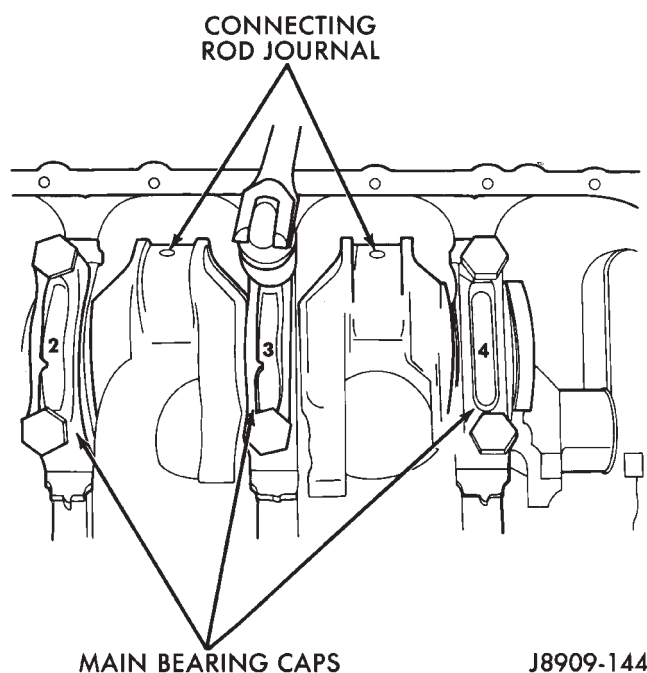
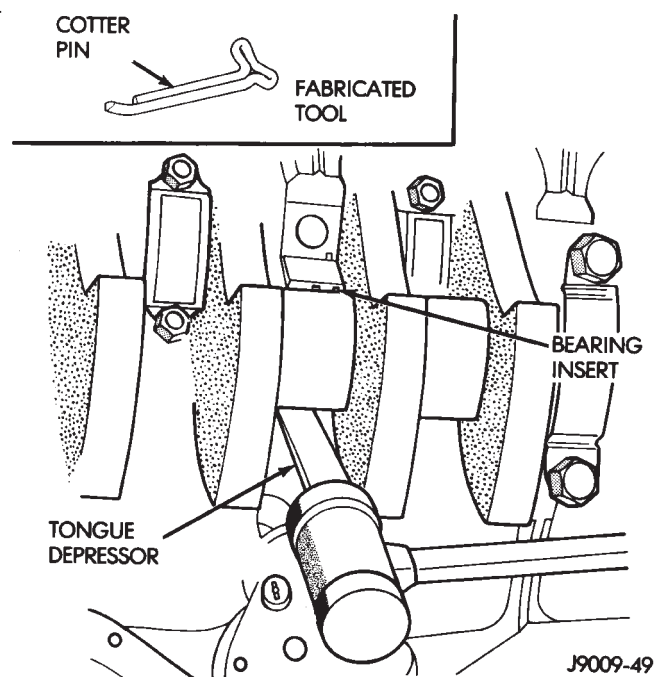

Fig. 1 Removing Main Bearing Caps and Lower Inserts
Fig. 2 Removing Upper Inserts
(1) Disconnect negative cable from battery.
(2) Remove the spark plugs.
(3) Raise the vehicle.
(4) Remove the oil pan and oil pump.
(5) Remove only one main bearing cap and lower insert at a time (Fig. 1).
(6) Remove the lower insert from the bearing cap.
(7) Remove the upper insert by **LOOSENING (DO NOT REMOVE)** all of the other bearing caps. Now insert a small cotter pin tool in the crankshaft journal oil hole. Bend the cotter pin as illustrated to fabricate the tool (Fig. 2). With the cotter pin tool in place, rotate the crankshaft so that the upper bearing insert will rotate in the direction of its locking tab. Because there is no hole in the No.3 main journal, use a tongue depressor or similar soft-faced tool to remove the bearing insert (Fig. 2). After moving the insert approximately 25 mm (1 inch), it can be removed by applying pressure under the tab.
(8) Using the same procedure described above, remove the remaining bearing inserts one at a time for inspection.